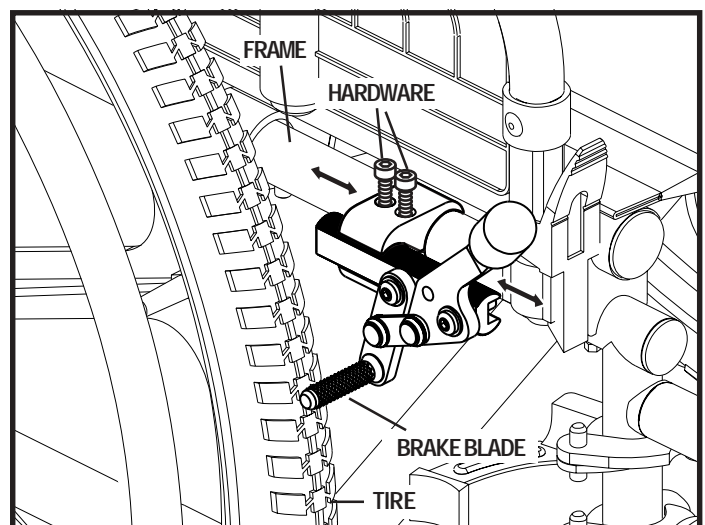

Figure 27. Manual Park Brake Adjustment
2. Loosen the hardware that fastens the park brake to the frame. See figure 27.